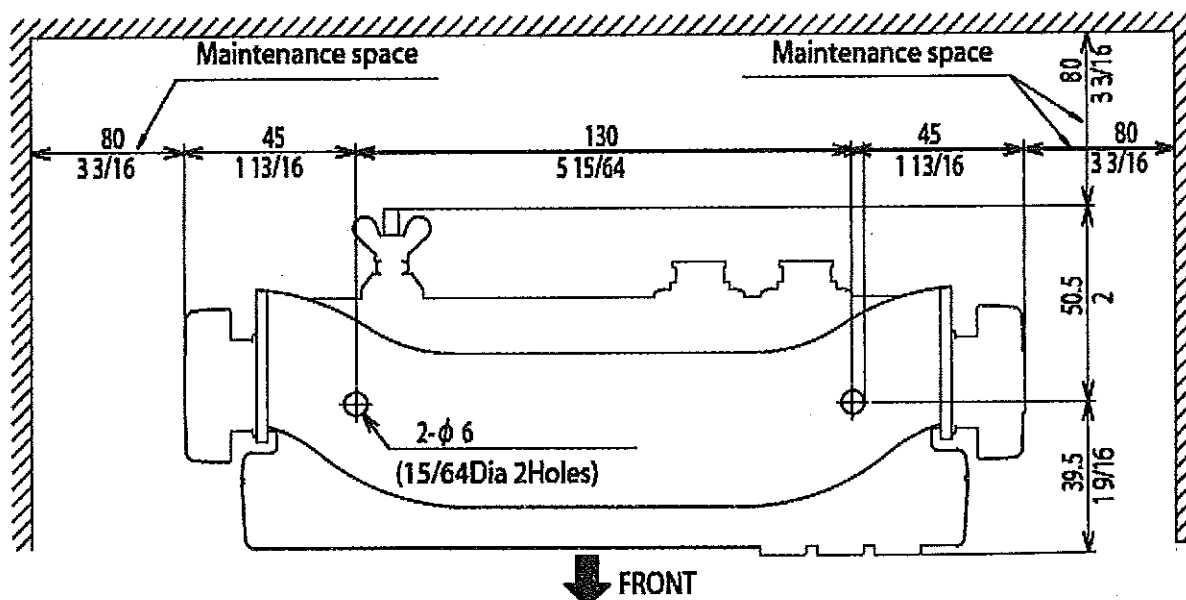

Figure 4.2 Service space required for KGP-920
- (1) Remove the two knurled fixing knobs that fix the display unit to the mounting bracket.
- (2) Remove the display unit from the bracket and place it on a flat and safe area.
- (3) Place the mounting bracket to the place where the display unit is to be installed, and fix the bracket with two (2) tapping screws.
- (4) Reset the display unit on to the bracket and fix it using the two knurled fixing knobs that were removed in step (1). Refer to Figure 4.2 for detail.